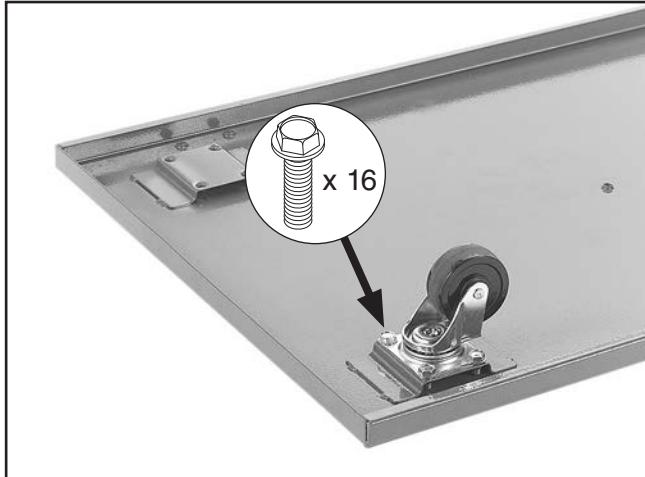

Figure 11. Caster installed onto the base.
2. Attach the casters to the base with (16) $5/16$ "-18 x $1/2$ " flange bolts, as shown in **Figure 11**.